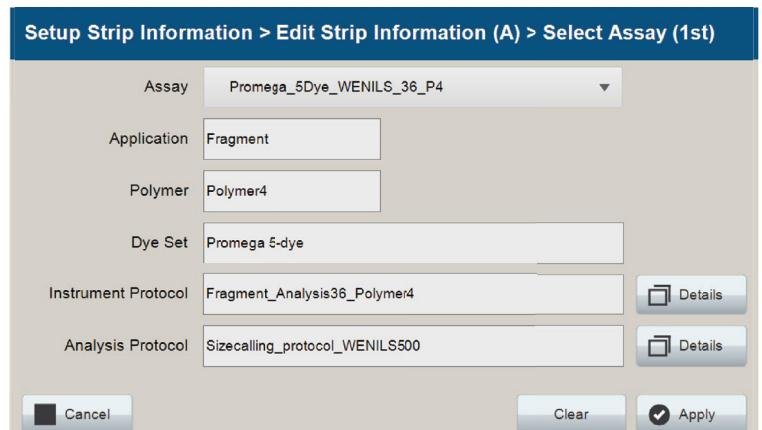
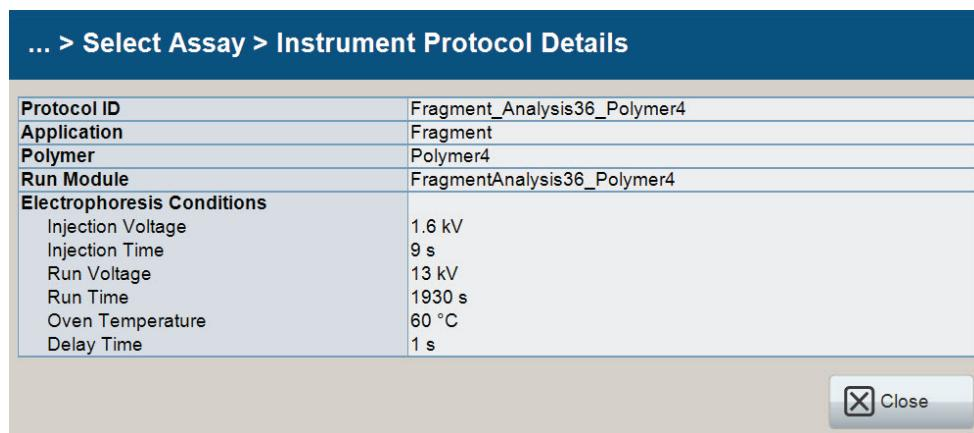
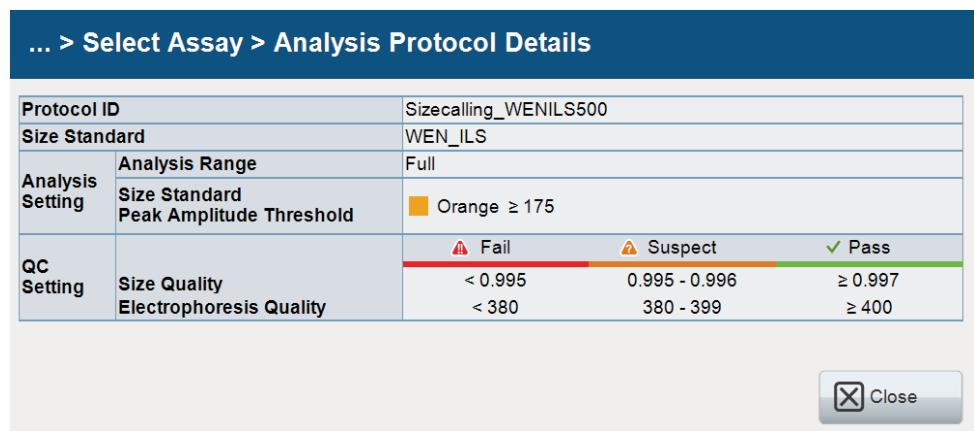

Figure 66. Accessing Instrument and Analysis Protocols on 'Select Assay' window.
Figure 67. 'Instrument Protocol Details' window.
Figure 68. 'Fragment Analysis Protocol Details' window.
6. You can verify the settings of the Instrument and Analysis Protocols associated with the assay chosen by selecting **Details** next to these fields (Figure 66). This will display a window showing the settings in these protocols but will not allow you to edit these settings (Figure 67 and Figure 68). To edit the Instrument Protocol or Analysis Protocol, see Section 7. When the assay information is confirmed, select **Apply** to return to the 'Edit Strip Information' screen.